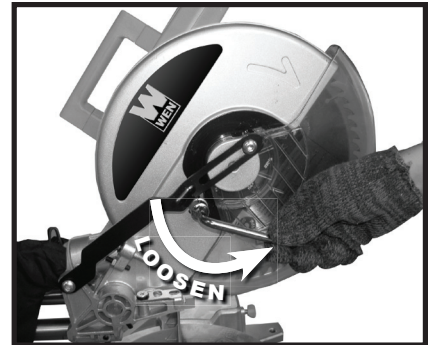

Figure 2
3. Use the supplied Wrench to remove the Center Cover Fixing Bolt holding the Center Cover in place by turning it counterclockwise. (See Figure 2.)